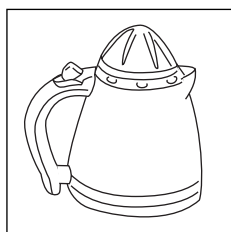

fig. 5
- Fill the tank with fresh, clean water up to the level corresponding to the number of cups of coffee required. Place the tank back in the coffee maker pressing it lightly into place. The tank may also be filled without being removed, using the coffee jug marked with the level indicators (fig. 5).